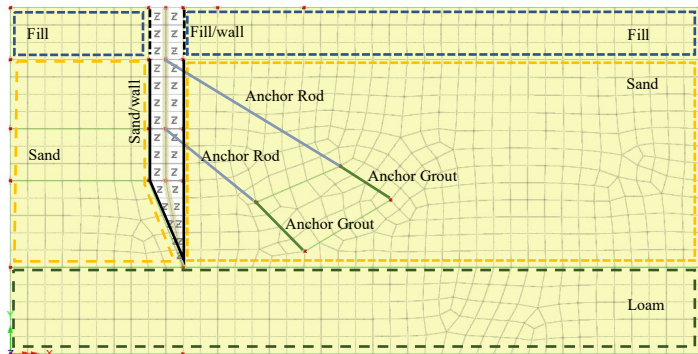

Figure 29: Material Assignments
- Assign the sand, fill and loam materials, in turn, by selecting the appropriate surfaces of the model (figure 29).